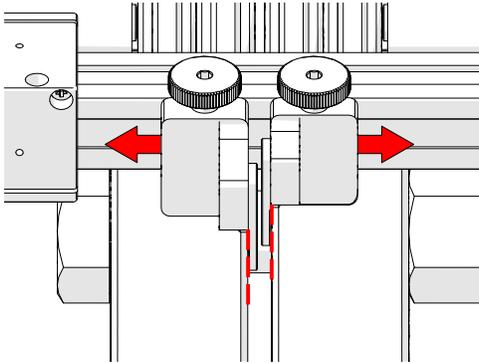

Fig. 26 - Position guides against the flange
3. Gently press the guides against the edge of the flange (Fig. 26).